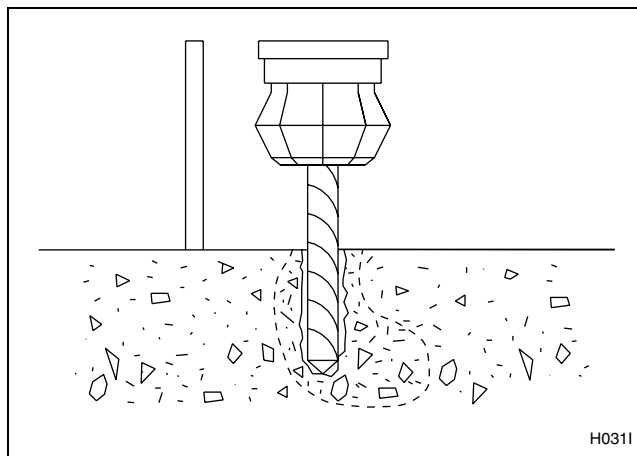

Figure 13
4. Drill and chisel out a conical hole large enough to accept the J-bolt. Refer to *Figure 13*.